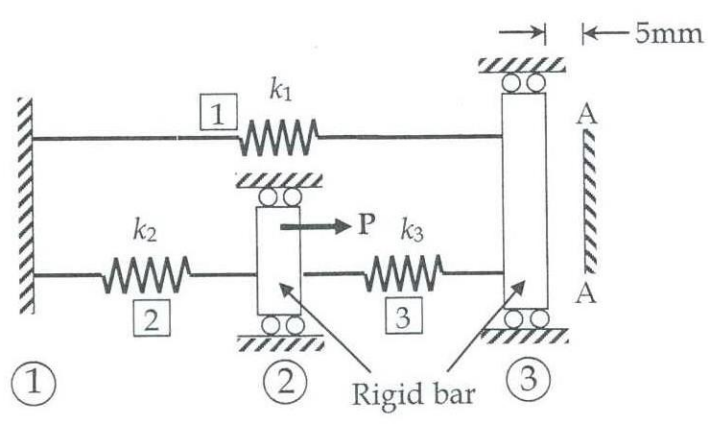

Fig. Q3
Q3. Fig. Q3 shows a one dimensional spring assembly. Element numbers are boxed and node numbers are circled. $k_1 = 100 \text{ kN/m}$, $k_2 = 200 \text{ kN/m}$ and $k_3 = 300 \text{ kN/m}$, where k_1, k_2 and k_3 are stiffness of the spring elements 1, 2 and 3 respectively. Face A-A is fixed and it is 5 mm from Node 3. Consider load applied at Node 2 as $P = 1500 \text{ N}$.
- If the spring element [1] in Fig Q3 replace with bar element (Young's modulus E , cross-section area A and length L), explain the procedure of analysing the above problem using FEM? [1 Mark]